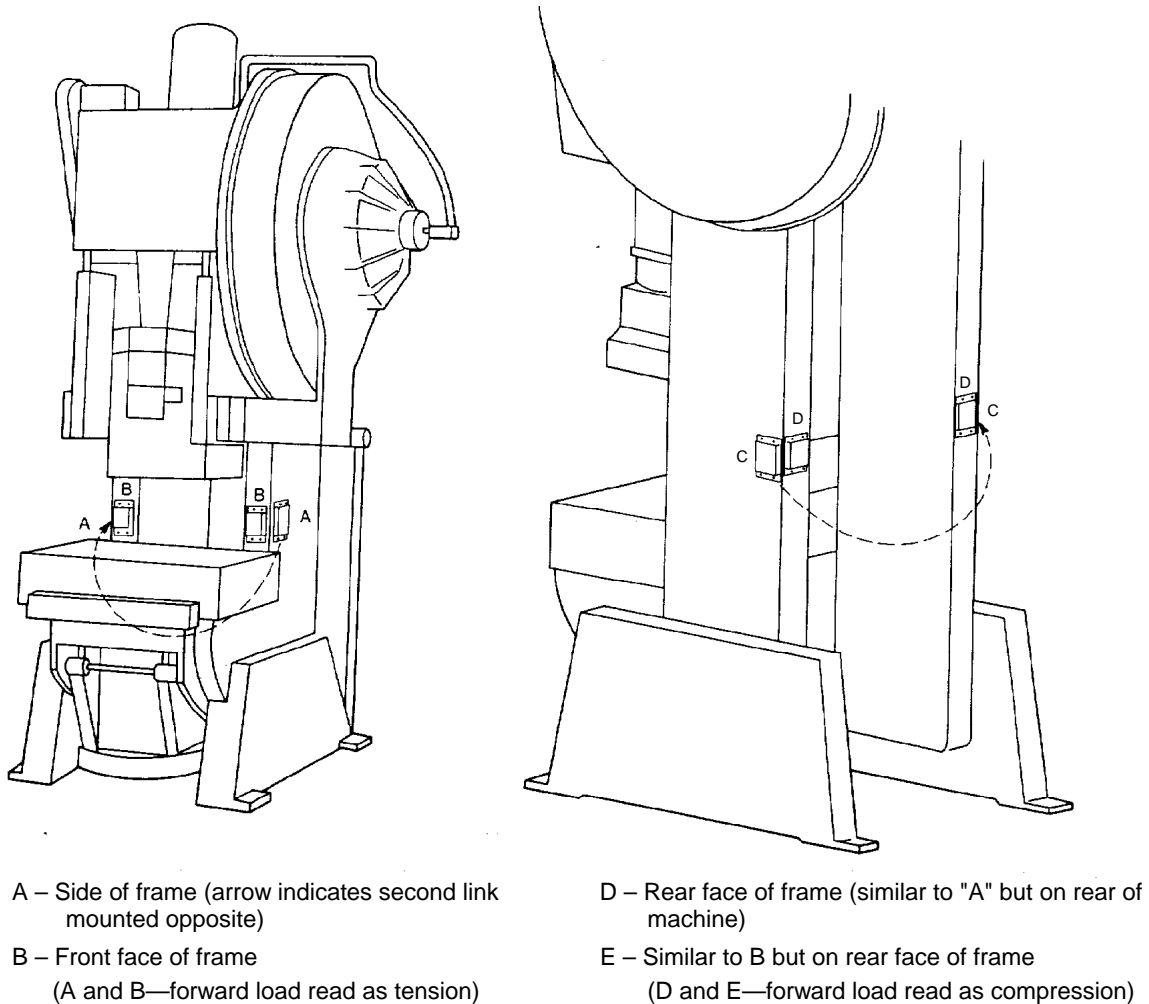

Figure 2-5. Strain link mounting options on OBI/OBG presses
1. Select mounting sites on the press for the strain links. On straight side presses, strain links are typically mounted on the columns. They measure tension (stretching of the frame). For gap frame (OBI or OBG) presses, strain links can be mounted on the front of the press to measure tension or on the back of the press to measure compression. Usually mounting on back is better because the strain links are away from the work area. Typical strain link locations for most gap frame and straight side presses are shown in Figures 2-5 and 2-6.